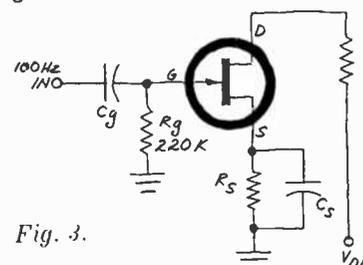

Fig. 3.
**Amplifier Calculations.** Amplifiers require a number of series and parallel RC networks for decoupling, interstage coupling, and filtering. The FET amplifier stage shown in Fig. 3 employs a series RC coupling network in the gate and a parallel RC bias/filtering network in the source circuits.